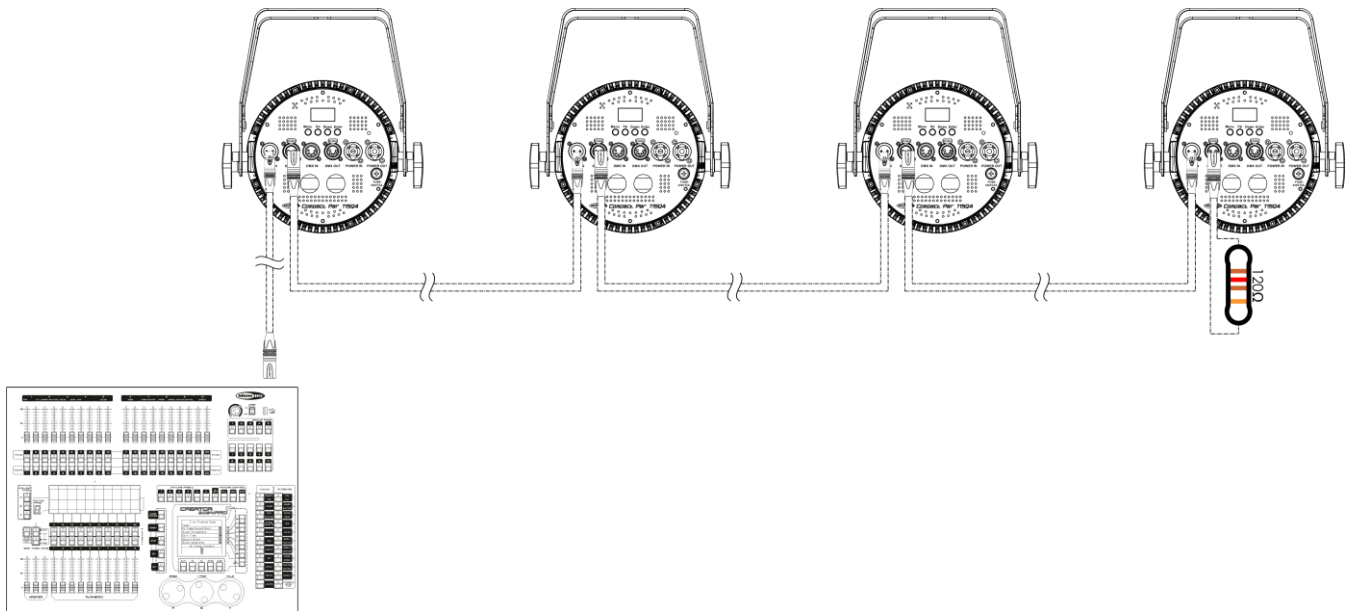

Fig. 04
- 04) Link the units as shown in Fig. 04. Connect the first unit's DMX "out" socket with the second unit's "in" socket, using a DMX-signal cable. Repeat this process to link the second, third and fourth units.